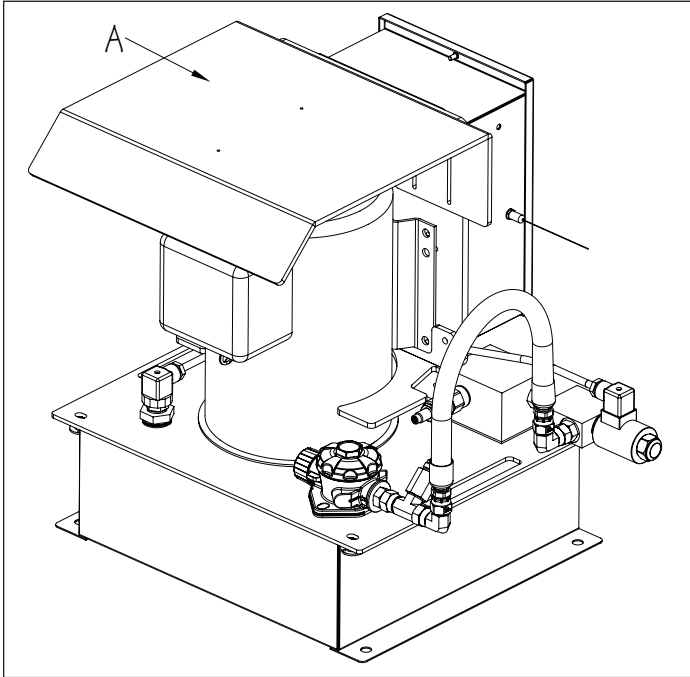

Fig. 20
The Hydraulic Power Unit should be placed on a solid, level surface, preferably not on wet ground. If placing the unit outside, it is recommended that the optional Weather Guard (A) be purchased but should not be subject to driving rain (Fig. 20). If placing the unit indoors and at a level below the pool deck, such as a basement, a floor drain is mandatory to accommodate the unlikely event of a hole developing in the hydraulic hose creating a siphon. For ample ventilation, a minimum of 12" (30,5cm) air space must be provided on all sides. In addition, the power unit MUST be accessible for service and maintenance purposes.